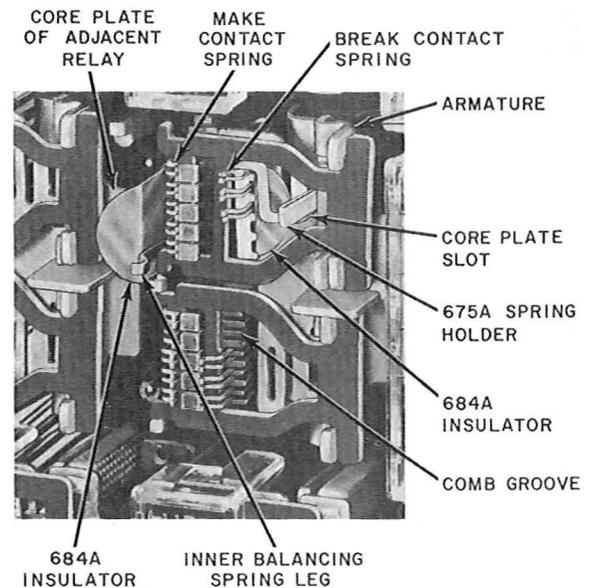

Fig. 27—684A Insulators and 675A Spring Holder Mounted on Upper Half of Relay
the contact cover spring. Push the insulator inward until the beginning of the offset touches the core plate as shown in Fig. 27. Moving the insulator laterally, while inserting it, may facilitate positioning it in the relay. Make sure that the insulator is positioned so it will insulate all the break contact springs.
4.14 If the relay has make contact springs and if there is an AF-, AG-, AJ-, AK-, AL-, or AM-type relay mounted at its left as shown in Fig. 27, it is necessary to prevent shorting of the make contact springs against the core plate of the adjacent relay when these springs are held out of the comb grooves for replacement of the card. To prevent shorting of the make contact springs, position the 684A insulator adjacent to these springs as follows: Using a KS-6320 orange stick, move the disengaged inner balancing spring leg to the right. Hold the insulator with the offset end to the left and insert the other end between the inner balancing spring leg and the core plate of the other relay. Release the spring leg so it holds the insulator against the core plate. With the KS-8511 tweezers, position the insulator so the beginning of the offset is against the core plate as shown in Fig. 27 and so the insulator will insulate all make contact springs from the core plate. If the relay is mounted adjacent to other
4.15 The 675A and 675B spring holders are used to hold break contact springs of the upper and lower halves of the relay, respectively, during replacement of the associated card. Each of the spring holders has five notches to engage the five pairs of break contact springs with which it may be used. It is important that the pairs of springs are engaged by the proper notches in the holders. Special care is required to engage the pairs of springs in the proper notches if all five positions on the relay are not equipped with these springs. The 675A spring holder is shown mounted on the relay in Fig. 27. To mount either the 675A or 675B spring holder, proceed as covered in 4.16.
4.16 With the right hand, apply the KS-6320 orange stick to the right inner edge of the card and move the card as far to the right as possible. Holding the handle of the spring holder in the left hand, insert the notched section of the holder behind the break contacts. Release the card. Swing the handle of the spring holder to the right and position the holder so each pair of break contact springs is engaged by the proper notch and the inner end of the handle is clipped in the core plate slot directly in front of the armature as shown in Fig. 27. Make sure that the notched section of the holder is against the comb, and that the inner end of the handle does not prevent free movement of the armature which is necessary for removal of the card. If necessary, free the armature by carefully moving the handle slightly outward.